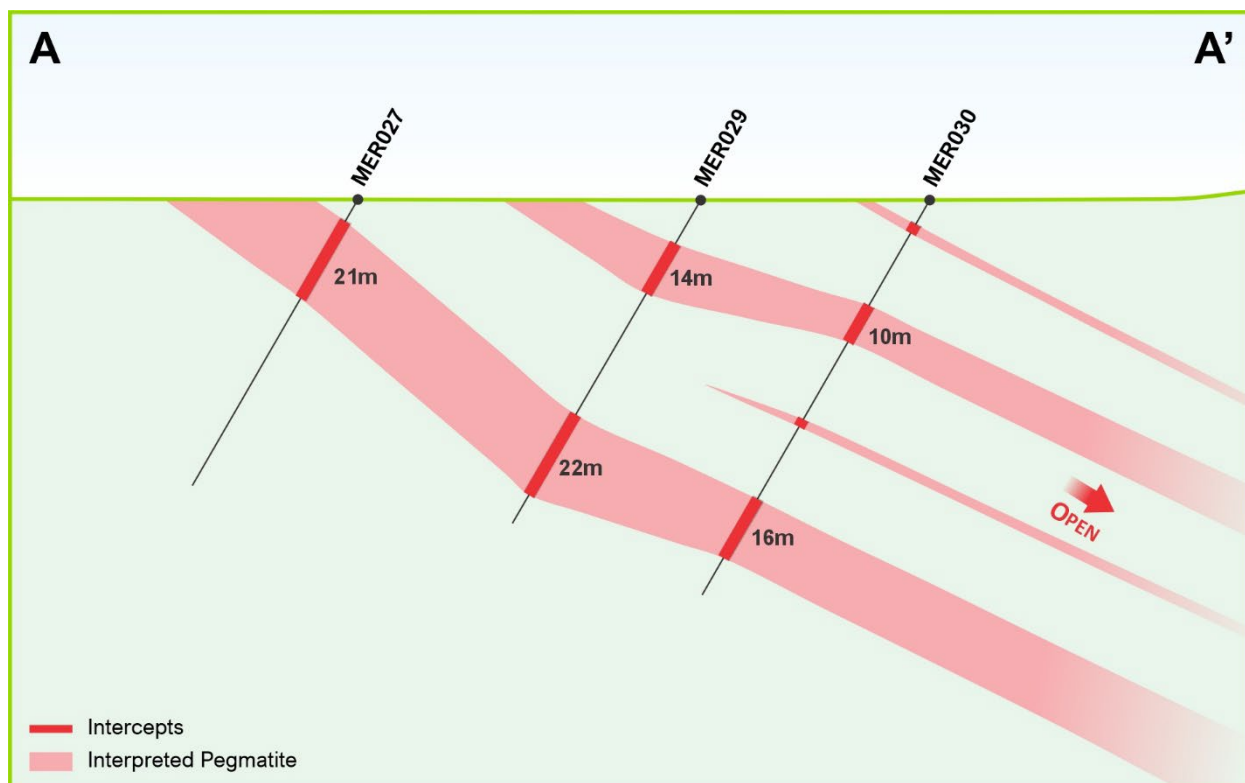

Figure 2: Section A-A' 6757870mN
Within the program five (5) holes had pegmatite intercepts of greater than 20 metres including MER031 with 112 metres from 20 metres (Figure 3) & nine (9) holes intercepted pegmatites with widths of between 10 and 20 metres. A number of holes had multiple intercepts indicating a stacked system of pegmatites (Figure 2).